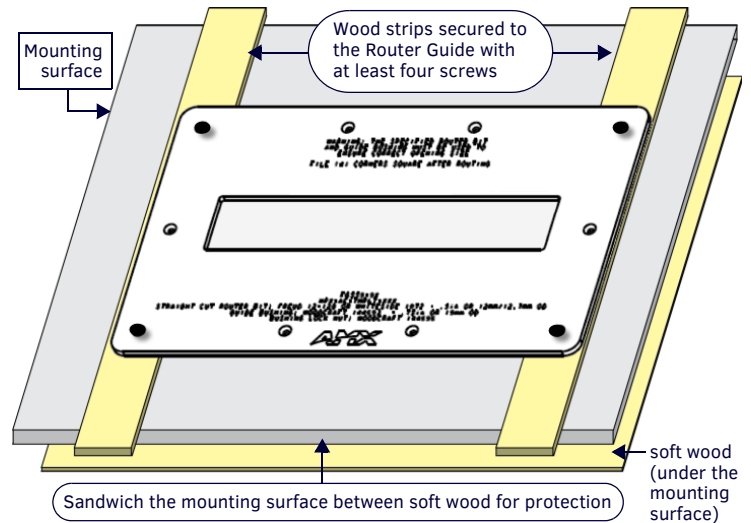

FIG. 7 POSITION THE ROUTER GUIDE AND PROTECTIVE SOFT WOOD STRIPS FOR INSTALLATION
3. Position a sheet of soft wood beneath the mounting surface to "sandwich" the mounting surface with soft wood. This will protect both sides of the mounting surface during installation (FIG. 7):